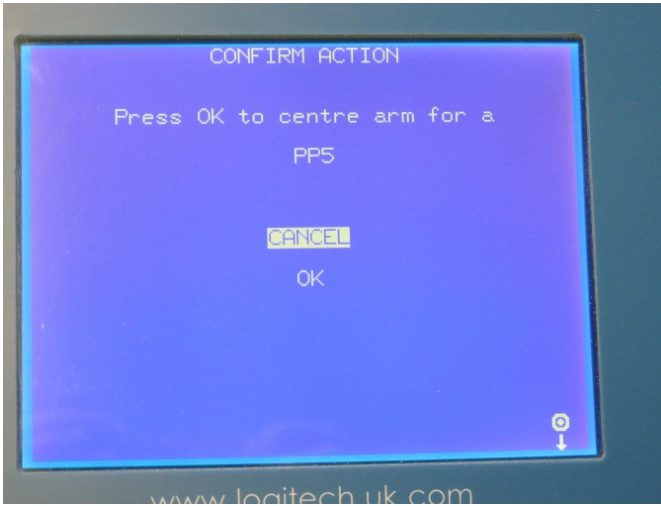

Figure 4
6. On the **Confirm Action** (Fig. 4) screen move the joystick **down** and press **Ok**.